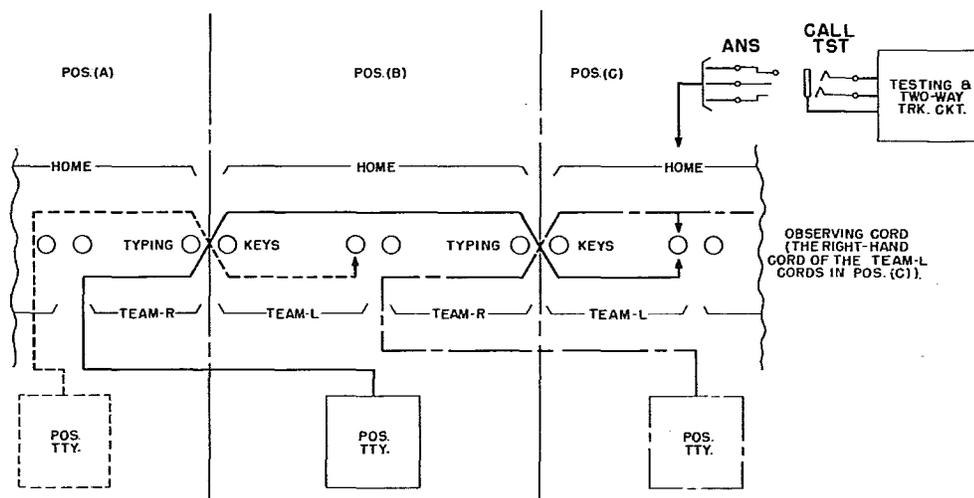

FIG. 4 - Non-Interfering Test of Cord Ckt. Typing Keys (Test I)
3.75 Referring to Fig. 4, at position (C), insert the ANS plug of the observing cord circuit into the CALL-TST jack of the testing and two-way trunk circuit or into an idle intertoll-trunk circuit LINE jack. Operate the typing key of this cord circuit to the TEAM position. The teletypewriter at position (B) will be the observing teletypewriter for tests covered in 3.76. This teletypewriter should run closed and respond to typing from its keyboard.